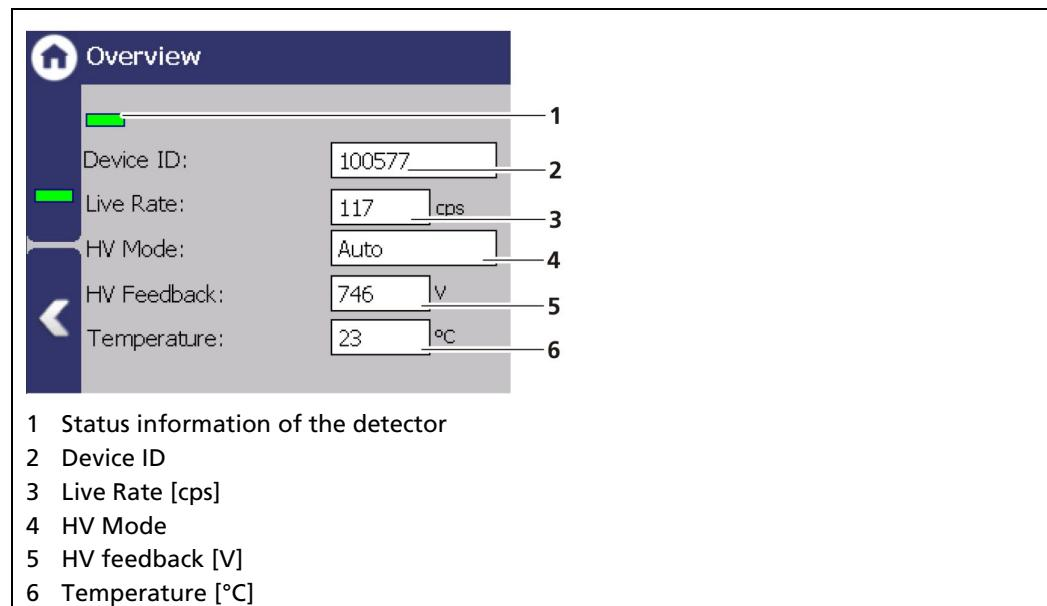

Fig. 57 Overview Detector Information
A green bar appears with error-free status of the detector (Fig. 57, item 1).
The "Live Rate" (Fig. 57, item 3) displays the current, unfiltered count rate.
In the field "HV mode" (Fig. 57, item 4), the HV mode is displayed, which is chosen under Device settings | Setup | Sensors | [NAME DETECTOR] | High voltage | HV settings.
The field "HV Feedback" (Fig. 57, item 5) displays the actual measured value in volts.
The field "Temperature" (Fig. 57, item 6) indicates the current temperature of the detector in °C.